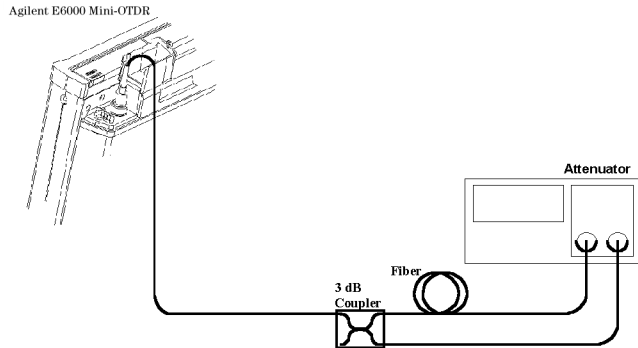

Figure 78 Event Deadzone Test Setup
- Connect equipment** **1** Make sure that all optical connectors are clean and connect the equipment as shown in Figure 78.
Connect equipment **1** Connect the equipment as for the event deadzone test (see Figure 78).